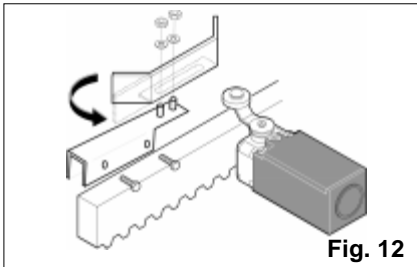

Fig. 12
The operator is equipped with a mechanical travel stop with roller and trigger. The movement of the gate is stopped when a bent travel stop plate fixed to the top of the rack operates the trigger, tripping the microswitch (fig. 12).
Note: The stop plates can also be fastened using a U support and screws (fig.12). Fasten the U support on the rack. Mount and fasten the stop plate using the nuts and washers provided.
- a) The microswitch must be triggered by the initial bent part of the travel stop plate, as shown in fig. 12.
- b) It is advisable to straighten the final bent part of the travel stop plate, as shown in fig. 12, in order to prevent the plate from passing the limit switch.